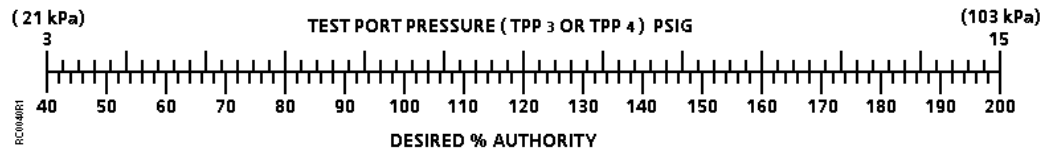

Figure 3. RC 185 Desired Percent Authority.
- For authorities above 40%, see Figure 3 to determine TPP3 or TPP4 for desired authority.